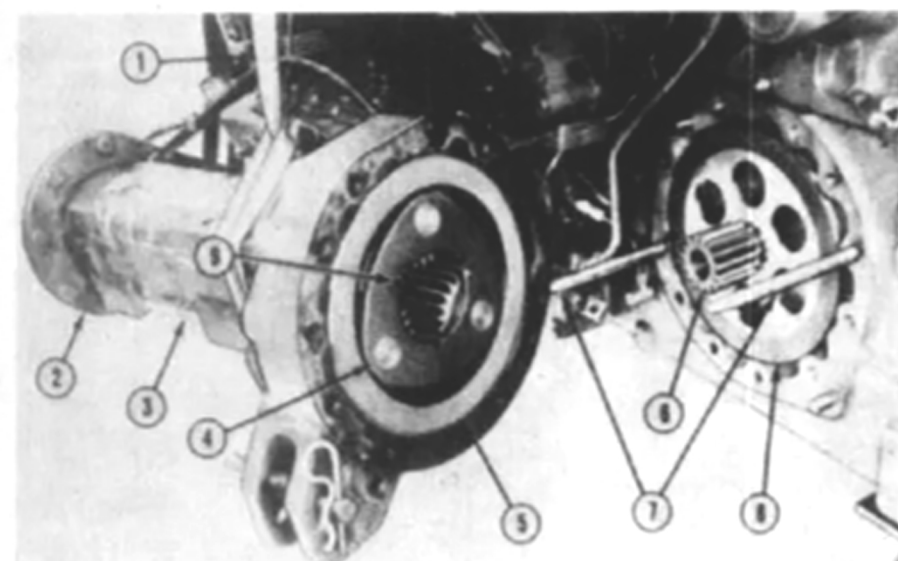
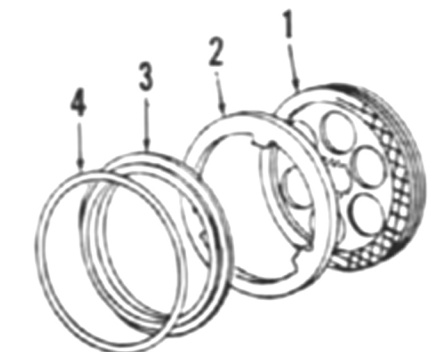
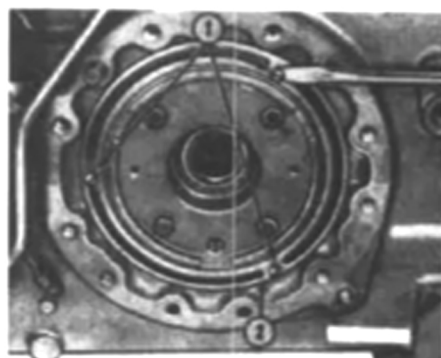

Fig. 142—View showing final drive assembly being removed.
Fig. 154 - Exploded view of brake piston and disc.
Fig. 155 - Install screws (1) and pry brake piston (2) from housing.
covers. Disconnect wiring harness on right and left sides, fuel lines and the park brake assembly from the left fender. Disconnect variable valve flow control line and remove control lever knobs. Remove platform and fender mounting bolts from axle housings and lift housing. Remove fuel tank, platform and fenders as an assembly. When removing final drive on left side, remove the hydraulic supply line to the hitch and auxiliary valves from the multiple control valve. Disconnect 3-point hitch lower link from axle housing. Support rear frame with a floor jack and remove rear wheel. Attach a hoist to axle housing, then unbolt and remove the final drive assembly as shown in Fig. 142.
122. **R&R AND OVERHAUL.** Removal of either brake is accomplished by removing final drive as outlined in paragraph 117. Refer to Fig. 142 showing final drive removed from tractor. Remove the planetary drive shaft. Remove brake disc (1 - Fig. 154), inner brake ring (2) and brake piston (3) with "O" ring (4). Refer to Fig. 155 for removal procedure of brake piston.
When reassembling, install new "O" ring (4 - Fig. 154) on piston and lubricate "O" ring with petroleum jelly. Install piston in rear frame being careful not to damage the "O" ring.